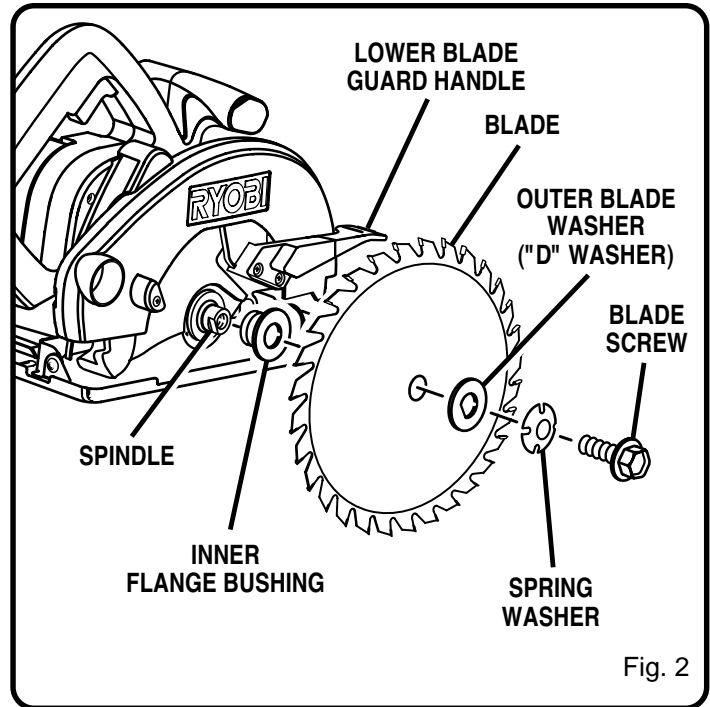

Fig. 2
See Figure 2.
**NOTE:** The saw teeth point upward at the front of the saw as shown in Figure 2.
**NOTE:** "Cupped" side of spring washer goes against "D" washer. See Figure 2.